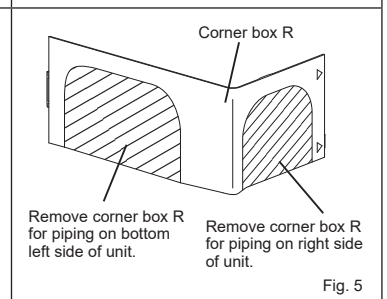

Fig. 5
- 6) Insert the drain hose into wall hole sleeve (C), and attach the upper part of indoor unit onto the installation plate (1). Then, shift the indoor unit completely to the left to make placing the piping in the back of the unit easier.
- 7) Cut out the spacer from the packaging styrofoam and set it on the rib on the back of the indoor unit. (Fig. 5)
- 8) Connect the refrigerant piping with the extension pipe (B).
- 9) Push the lower part of the indoor unit to fit into the installation plate (1), then attach the parts in the opposite steps of removal.